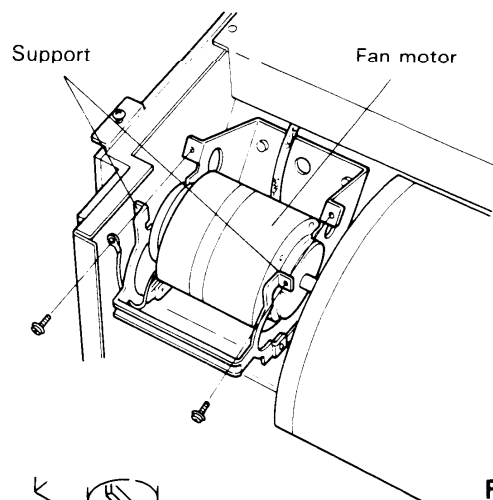

Fig. 5
- (4) The motor can be removed after the two screws fixing the support have been removed. Fig. 5